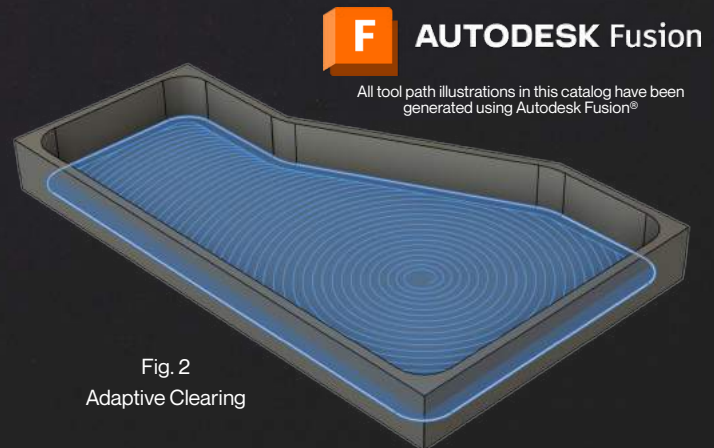

Fig. 2
- **Mitigated Trouble:** Notice that the 90° corner motions (Fig. 2) have been avoided, eliminating trouble and allowing for optimization.